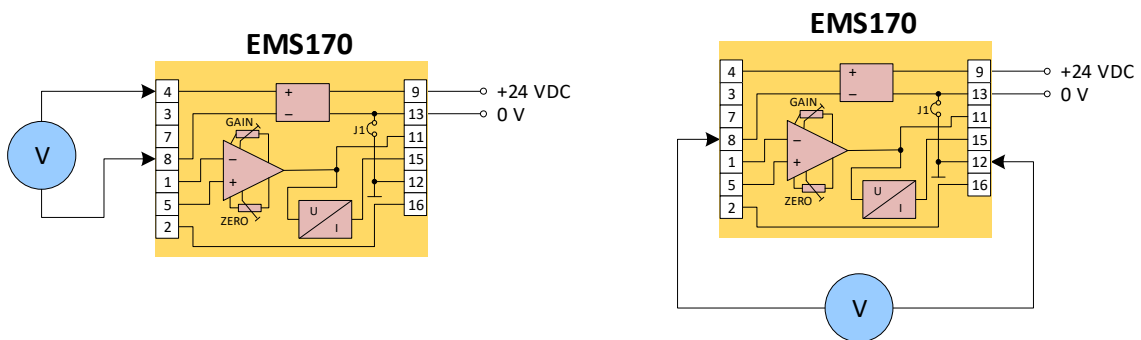

Fig. 9. Measurement of excitation of the sensor
2. **Check sensor power supply 1 (no load).** The excitation of the sensor is measured at terminals 4 and 8, according to the connection in fig. 9. The correct value is 5 V or 10 V (depending on the configuration) with a tolerance of $\pm 5\text{ mV}$. If the voltage is not within this range, the signal conditioner is clearly damaged. Caution, terminal 8 is not connected to the ground of the transmitter. The potential of terminal 8 is $2.5\text{ V} \pm 5\text{ mV}$ relative to terminal 12 (analog ground). It must also be measured.